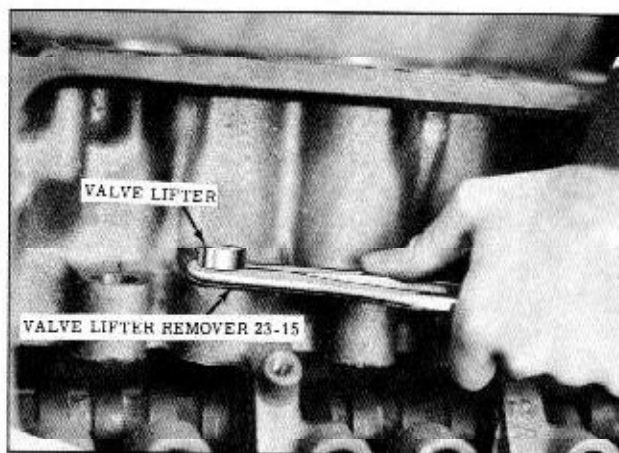

Fig. 8-13 Removing Lifter
4. Remove valve lifters. The use of Tool 23-15 will aid in removal of varnished lifters. (Fig. 8-13)